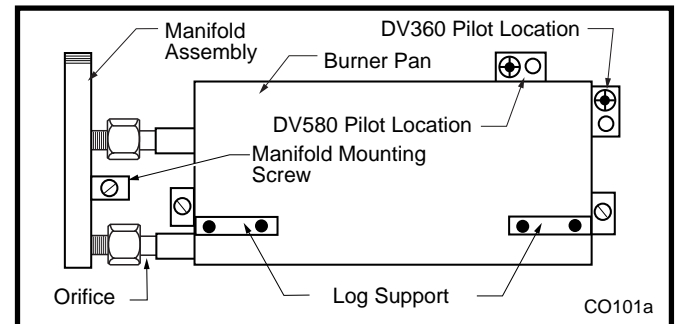

Fig. 65 Remove manifold assembly.
5. Remove manifold mounting screw. (Fig. 65)